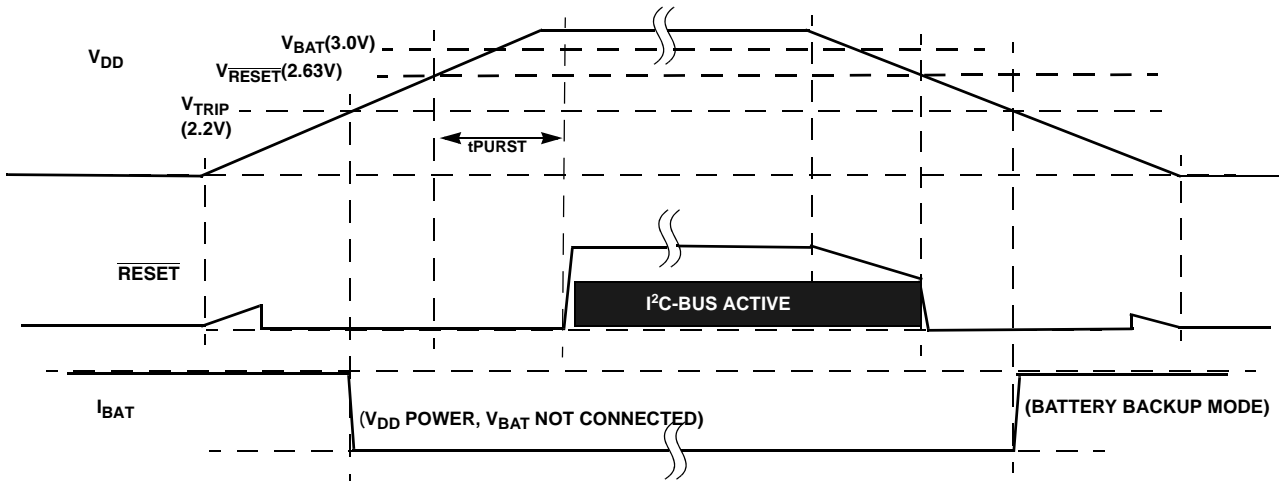

FIGURE 29. EXAMPLE RESET OPERATION IN MODE A OR C
- Mode A - In this mode, selection bits indicate a low V_{DD} switchover combined with I²C operation in battery backup mode. In actuality the V_{DD} will go below V_{RESET} before switching to battery backup, which will disable I²C ANYTIME the device goes into battery backup mode. Regardless of the battery voltage, the I²C will work down to the V_{RESET} voltage (see Figure 29).
- Mode C - In this mode, the selection bits indicate a low V_{DD} switchover combined with no communications in battery backup. Operation is actually identical to Mode A with I²C communications down to V_{DD} = V_{RESET}, then no communications (see Figure 29).